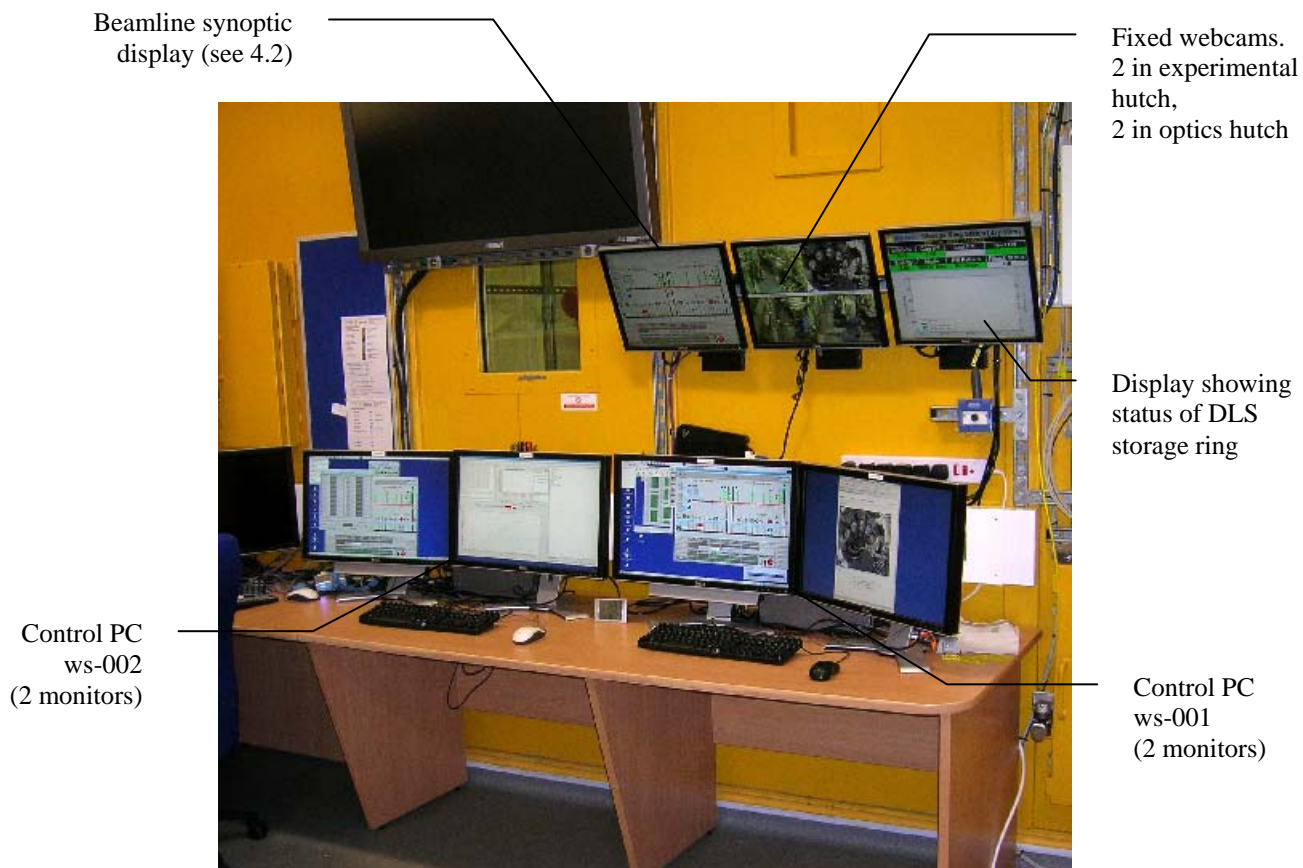

Figure 2 View of beamline control cabin
- Control room (also known as Control Cabin 2 or CC2). CC2 has duplicate beamline control PCs and two Windows PCs available for users. There is also a storage ring status display, camera display and synoptic display (see Figure 2).